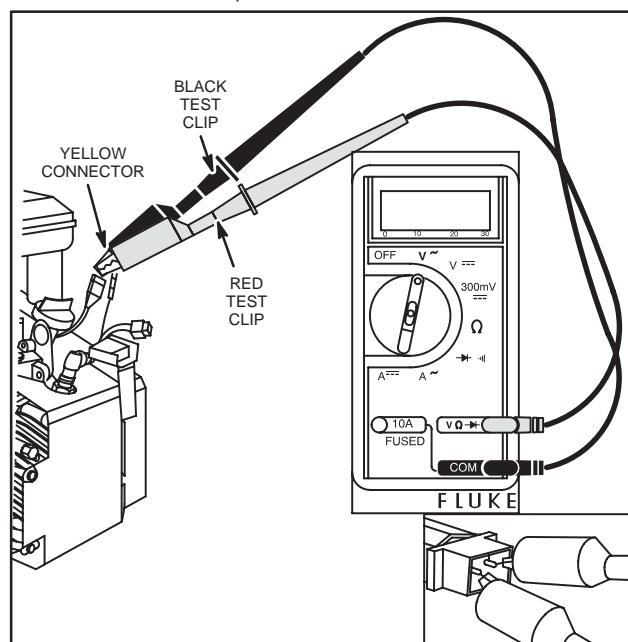

Fig. 24 – Testing AC Output
4. Insert RED and BLACK test lead probes into output terminals in yellow connector, as shown in Fig. 24. (Meter test clip leads may be attached to either terminal.)